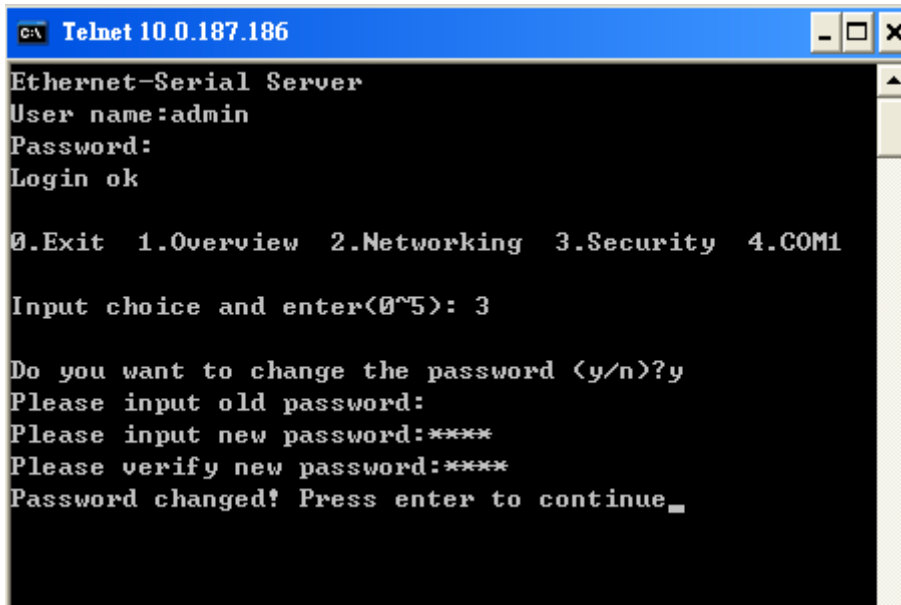

Figure 3.8 Change the Password
1. Select “3” from “Input choice and enter (0~4):” the following screen appears. (Figure 3.8)